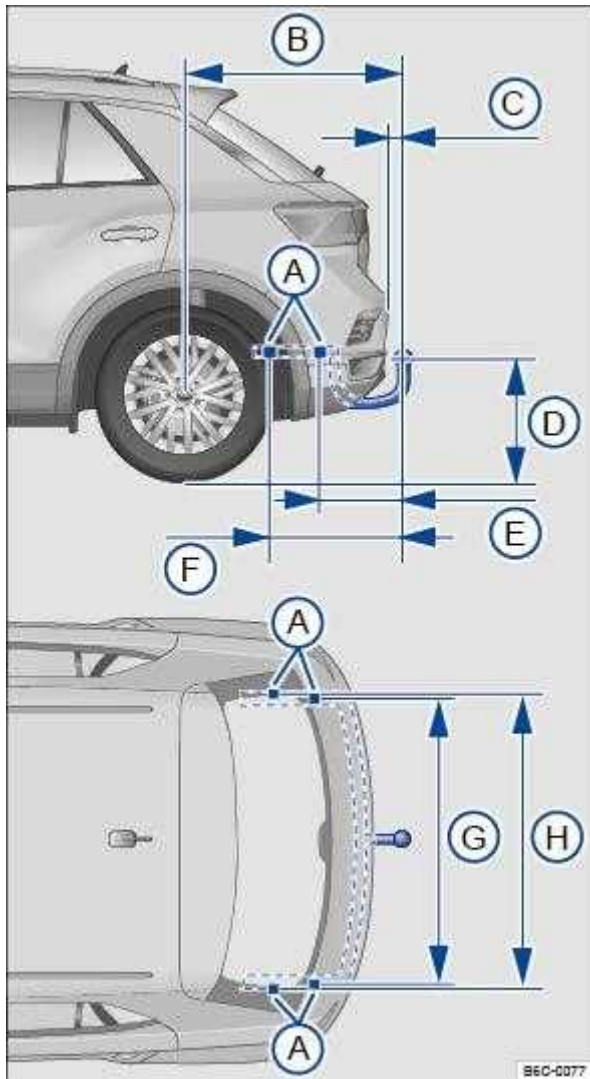

Fig. 157 Dimensions and mounting points for retrofitting a towing bracket.
The dimensions ⇒ Fig. 157 must be observed in all cases when retrofitting a towing bracket. Always observe the minimum distance given from the middle of the ball head (D) to the surface of the road. This also applies when the vehicle is fully laden, including maximum drawbar load.